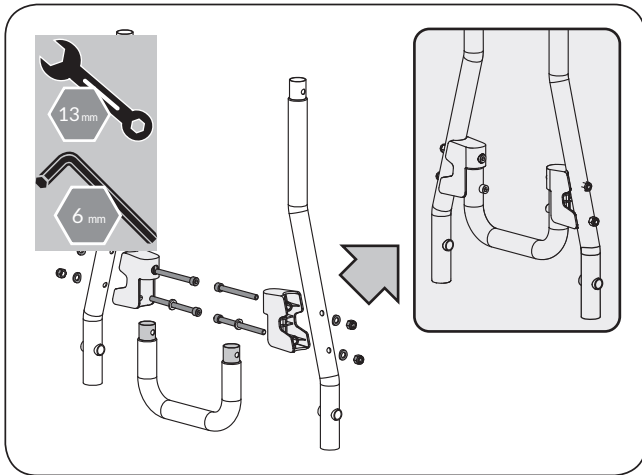

Figure 1
1. Line up the holes in the rear support legs with the holes in the gray support brackets and rear U-shaped connecting pipe. From the inside, insert the M8X85 bolts through the top holes and the M8X100 bolts through the bottom holes, then secure with arc washers and nuts. (See **Figure 1**)